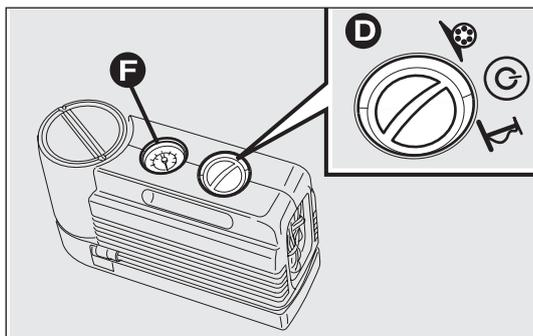
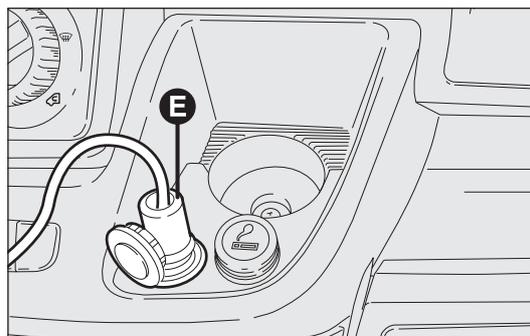

fig. 173
fig. 174
- Insert the pin E-fig. 174 in the nearest 12 V power socket and start the engine. Turn the selector D-Fig. 173 anticlockwise to the repair position. Activate the kit by pressing the on/off switch. Inflate the tyre to the pressure prescribed in the "Inflation pressure" paragraph, in the "Technical Specifications" section.
For a more accurate reading, it is advisable to check the pressure reading on the pressure gauge F-fig. 173 with the compressor off and without moving the centre selector from the repair position;